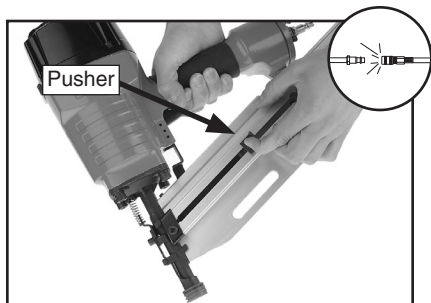

Figure 3. Sliding magazine pusher back and engaging catch lever.
2. Grip the nailer firmly and point the nose down, then pull the magazine pusher back until the catch lever engages, as shown in **Figure 3**.